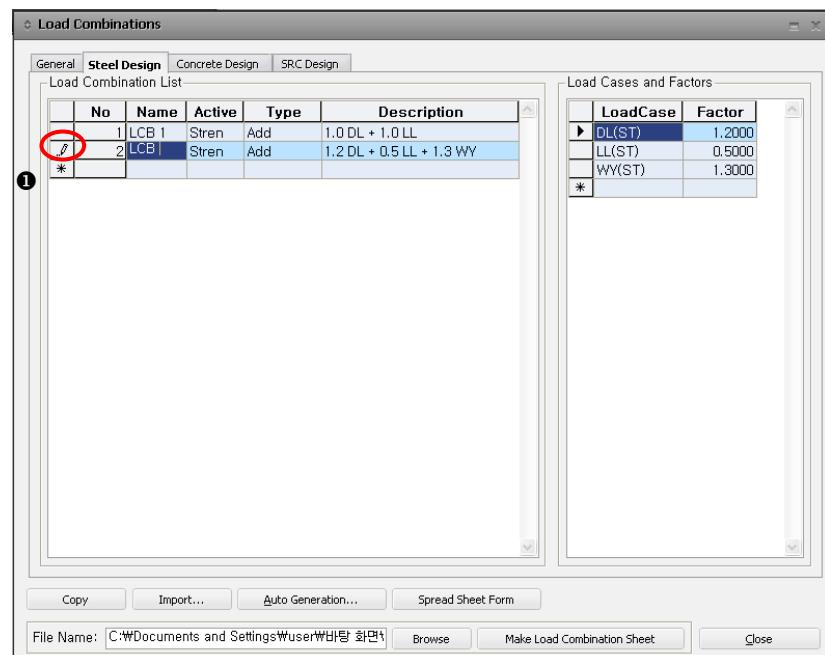

Figure 1.22 Load Combination Cases
The load combination data are entered through the **Load Combinations** dialog box (Fig.1.22) in **Results>Load Combinations** in the Main Menu.
☞ When data entries are carried out in table, the symbol (Fig.1.22-①) has to disappear to complete the input. Select another cell to eliminate the ‘Edit-in – progress’ symbol and click Close.
When data entries are carried out in table, the symbol(Fig.1.22-❶) has to disappear to complete the input. Select another cell to eliminate the ‘Edit-in – progress’ symbol and click **Close**.